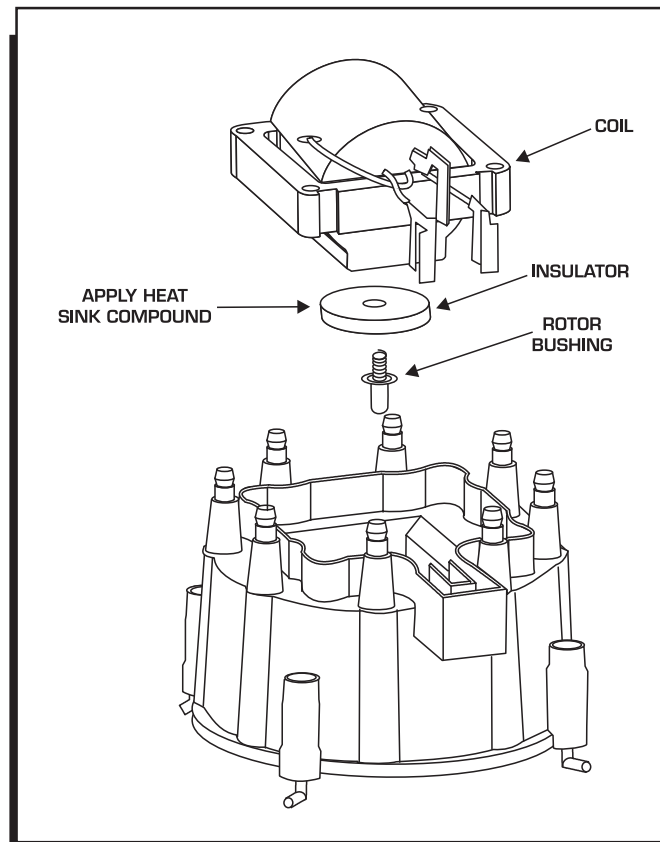

Figure 4 Installing the Coil Rotor Bushing and Insulator.
5. Position the supplied Low Resistance Rotor Bushing in place (spring side up) followed by the rubber insulator (Figure 4).